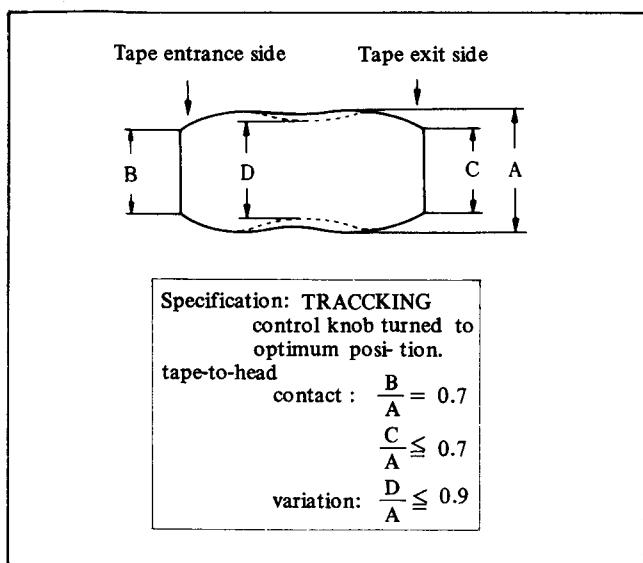

Fig. 3-25. Adjustment of Tape Path
(5) Turn the TRACKING control knob to set it at the maximum RF output waveform. Confirm that the RF output waveform variations and contact meet the specification given in Fig. 3-25 at that time. If these do not meet the specification, adjust by following Step 6.
(4) Play back the 1 MHz segment of the alignment tape (KR5-2H). Confirm that the RF wave output (see Fig. 3-25) satisfies the specification and there is a minimum curl (not more than 2 mm) on the tape edge contacting the tape guide. Confirm that the RF waveform varied from the flat state when the tape guides (E) and (F) are raised, and adjust the heights of the tape guides so that the waveform output becomes flat.
(5) When the waveform does not vary if the tape guides (E) and (F) are raised in Step 4 or when the waveform does not become flat if the tape guides are lowered, perform the adjustment, following the procedure below.